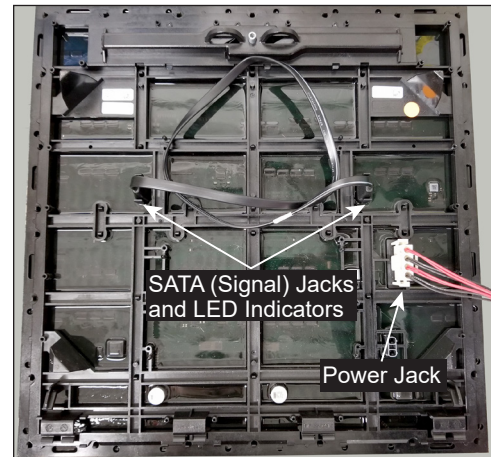

Figure 22: Labeled Module Back/Module Self-Test Set Up
Under normal operation, module indicator LEDs (one on each side on the back of the module) should flash once every two seconds. Refer to **Figure 22**.
1. Attach a SATA cable to Port A and Port B on the module. Refer to **Figure 22**.